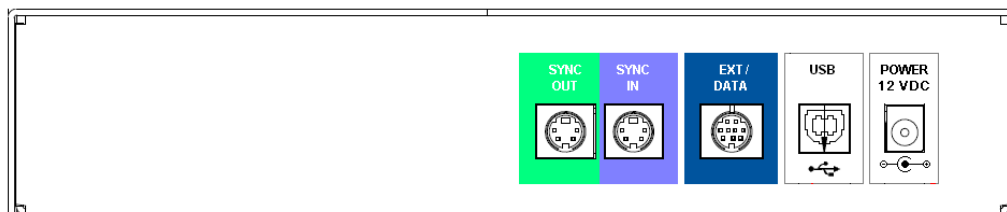

Figure 2.15 CATC 5K Rear Panel
- Synchronization Cable for synchronizing multiple analyzers. The Synchronization Cable connects to the SYNC IN and SYNC OUT connectors located on the UWB *Tracer/Trainer* rear panel (Figure 2.15). (For more information about setting up multiple analyzers, see Section 10.3, “Multiple Analyzer Synchronization” on page 152.)